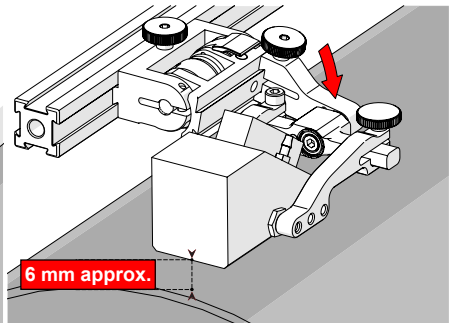

Fig. 154 - Lower to scanning surface
2. Push the probe holder yoke down toward the inspection surface until the wedge is approximately 6 mm ($\frac{1}{4}$ in) from the inspection surface (Fig. 154).